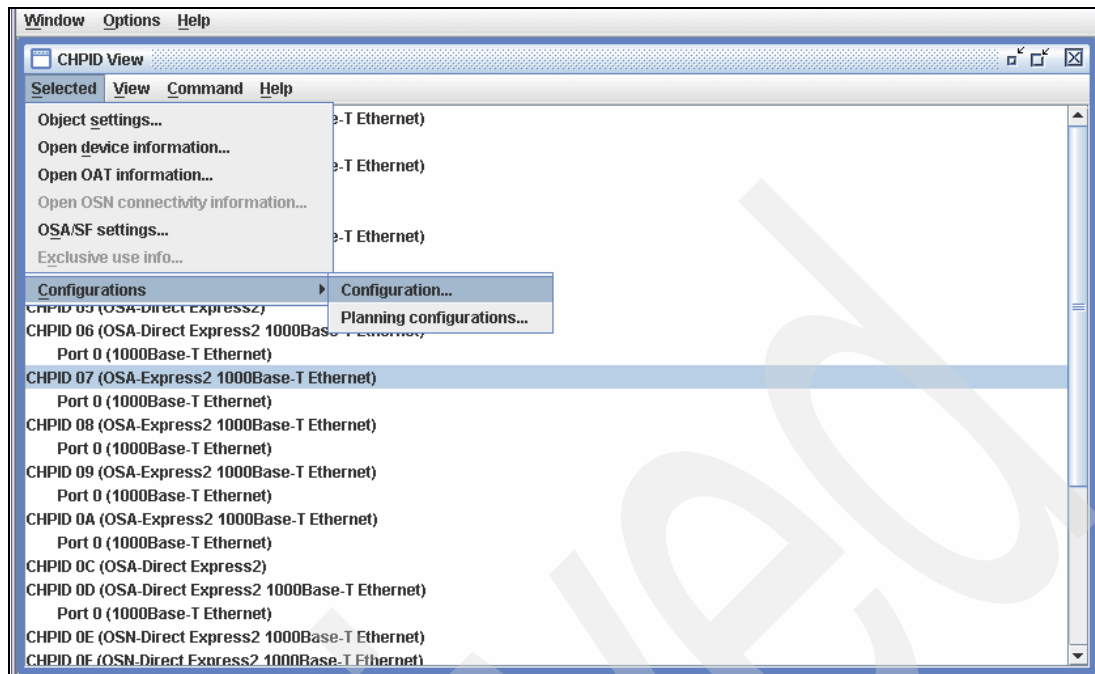

Figure 3-17 OSA/SF Workstation Interface - Selected Configurations
- From the OSA/SF Commands panel, click **CHPID View**. The CHPID View panel is displayed; it lists all OSA features in the configuration; see Figure 3-17.
- From the CHPID list displayed in the CHPID View panel, select the CHPID you want to work with. Click **Selected** → **Configurations** → **Configuration...**, as shown in Figure 3-17.